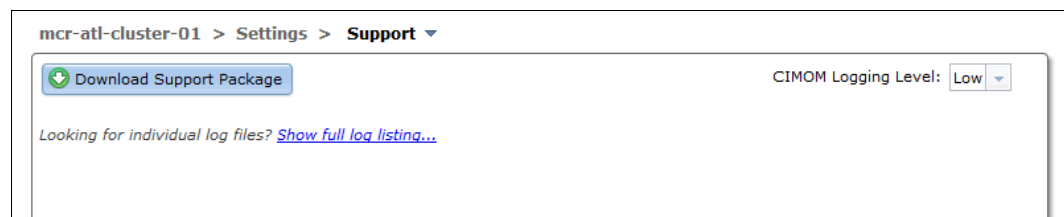

Figure 12-20 Configuration backup select configuration node
2. Select the configuration node on the support view, as shown in Figure 12-20.